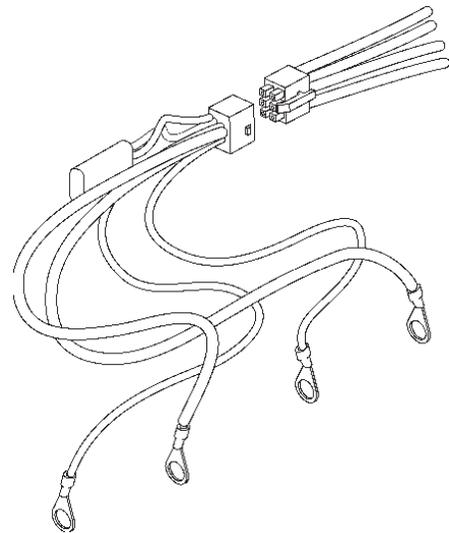

Figure 9. AX56L Battery Connection
3. Connect the battery power harness to the fusible link assembly (Figure 9).